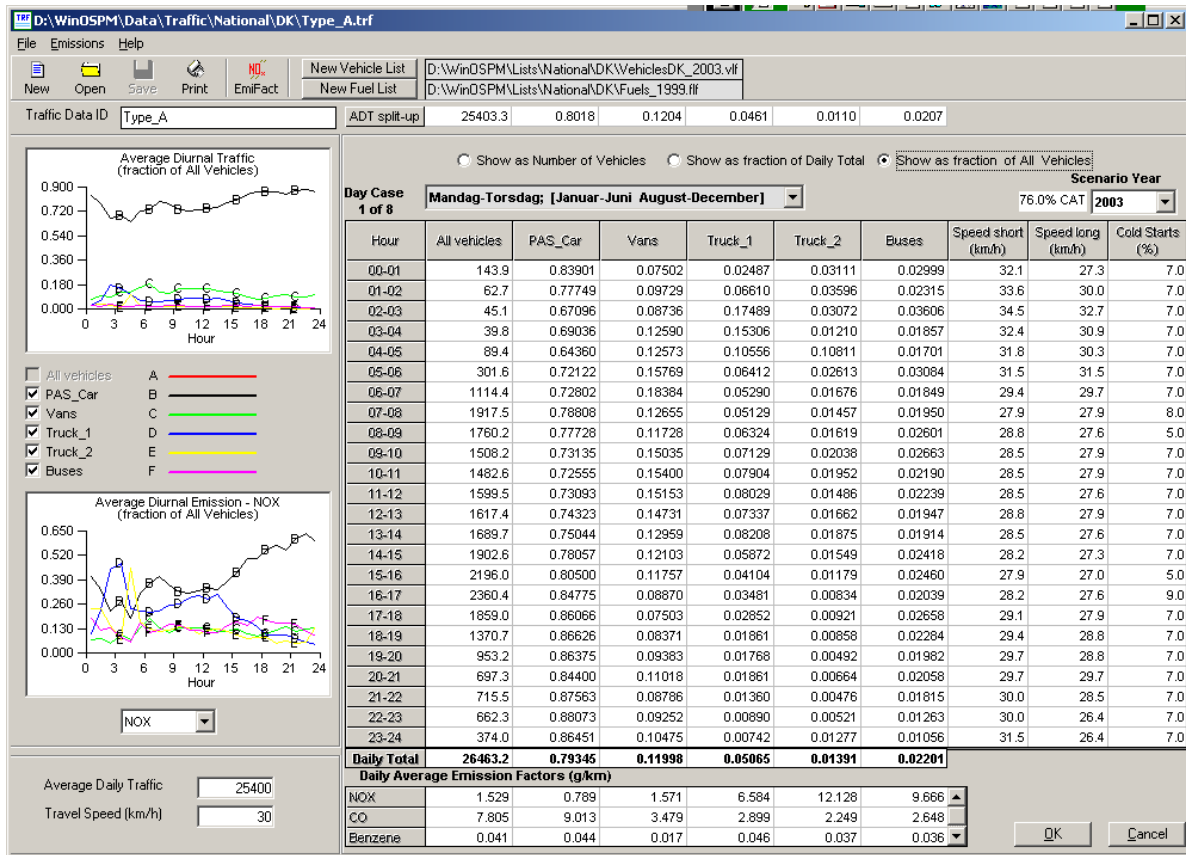

Fig. 7.10 Traffic file displayed in "Mode 3": As fraction of all vehicles.
- *Mode 3.* As fraction of all vehicles – the "Show as fraction of All Vehicles" option button is pressed (Fig. 7.10).